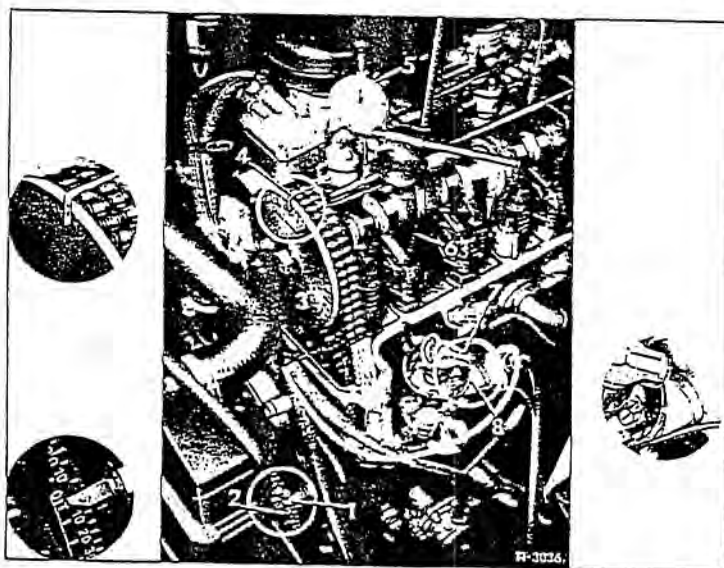

Fig. 00-9/1
5. Turn the graduated disk until the pointer points to the 0° mark. Tighten the graduated disk in this position (Fig. 00-9/1).
7. In order to take up the tappet clearance insert a feeler gage between rocker arm cone and pressure piece or grooved nut on diesel engines and between valve shaft end and adjustment screw or ball socket in the case of 300 SE engines (Fig. 00-9/2).